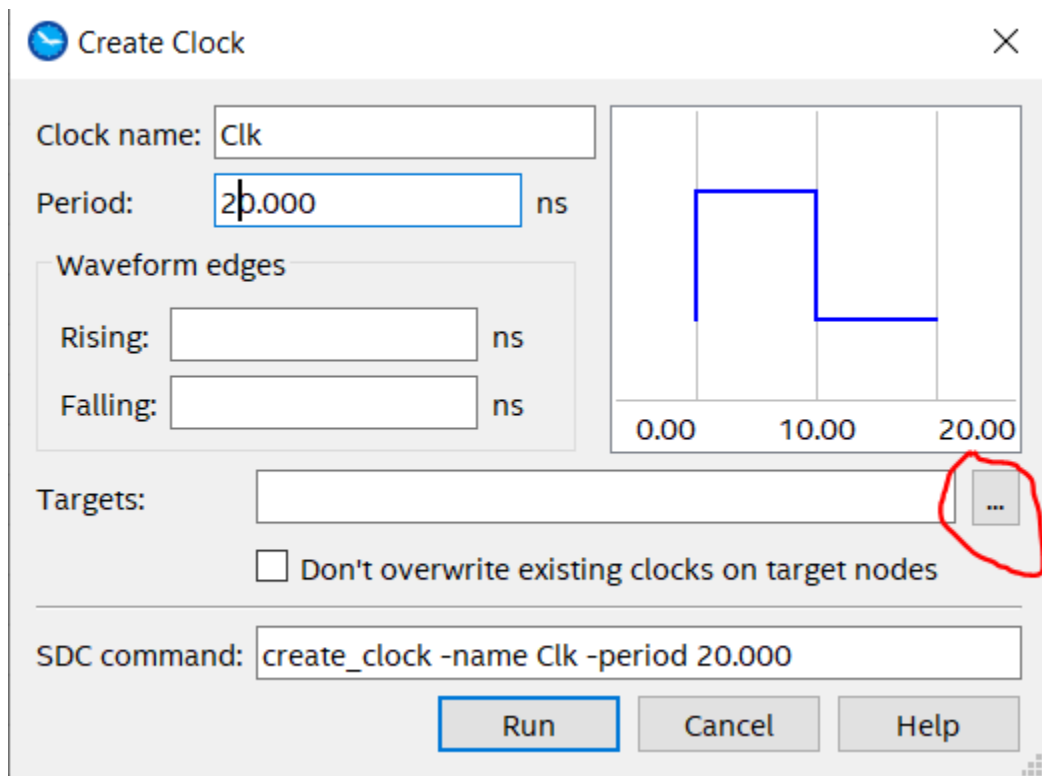

Figure 8
7. A window popped up as shown in figure 8. Give a clock name and set the period to be 20ns.